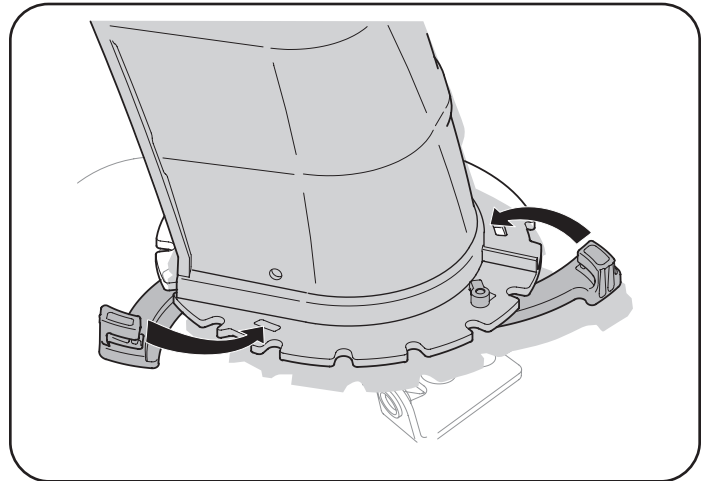

Figure 10
2. Close flange keepers to secure chute assembly to chute base. Flange keepers will click into place when properly secure. See "Figure 10".